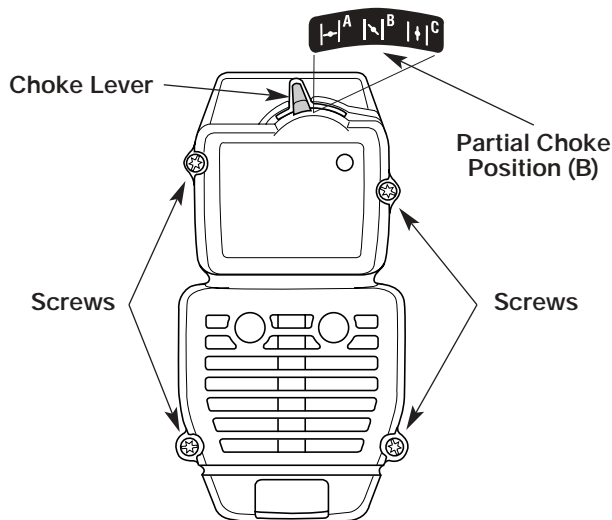

Fig. 19
2. Remove the four (4) screws securing the air filter/muffler cover (Fig. 19). Use a flat blade or T-20 Torx bit screwdriver.
2. Insert the four (4) screws into the holes in the air filter/muffler cover (Fig. 19) and tighten. **Do not over tighten.**